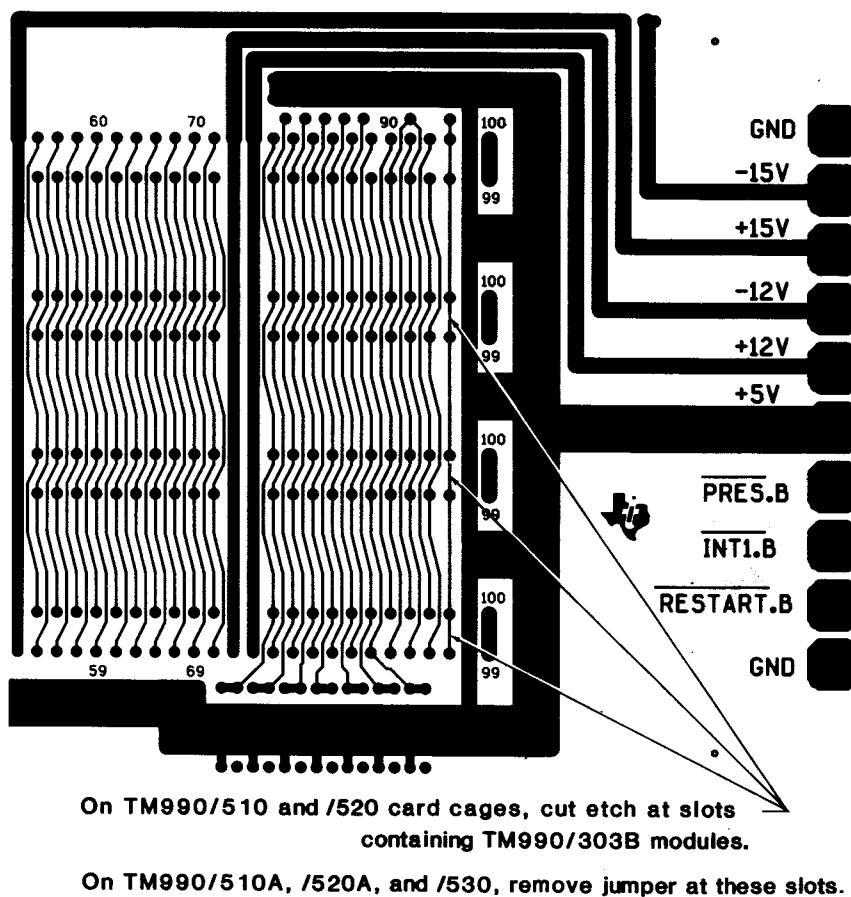

FIGURE 2-2. LOCATION OF SOLDER BRIDGE BETWEEN PINS 96 AND 95 OF MOTHERBOARD
2. When using a TM 990/510 or /520 card cage, the etch on the backplane between lines 95 and 96 must be open (cut) in each slot that the TM 990/303B module is installed. Follow the procedures in section 2.6 and Figure 2-2. This applies to all TM 990/303B modules installed. For TM 990/510A, TM 990/520A, and TM 990/530 card cages, remove the jumpers provided for this purpose.
Turn power off before installation of modules into the card cage. Install the microcomputer module at the top of the cage with other modules beneath, with any blank slots being at the bottom of the card cage. Where the TM 990/303B modules are installed in a TM 990/510 or /520 card cage, cut the connection on the card cage backplane between lines 95 and 96 as shown in Figure 2-2. This break is made at the slot containing the TM 990/303B module:
- on TM 990/510 and 520 card cages, cut the etch as shown in Figure 2-2.
- Backplane interconnection at card cage for pins 95/96 is open at TM 990/303B controller module slot (section 2.6, Figure 2-2),
The interconnection on the motherboard of the card cage has to be opened between the pins of 96 (top) and 95 (bottom) for the slots containing the TM 990/303B modules. This can be done by removing a jumper on the TM 990/510A, /520A, and /530 card cages, or by cutting the etch on the back of the TM 990/510 and /520 card cages. The location of these lines is shown in Figure 2-2. This allows the upper module to obtain bus control by presenting his GRANTOUT.B- signal (via pin 95 on the lower side of the TM 990/303B module) to the lower module's GRANTIN.B- line (pin 96 on the upper side of the module). Thus, the controller module with the higher priority (higher slot position) may suspend bus access to the lower-priority module.